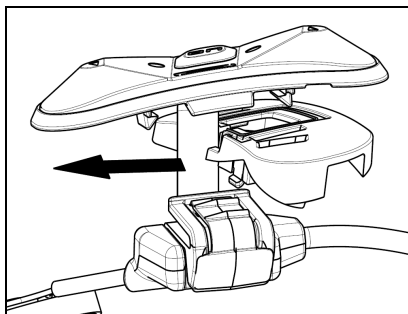

Fig. 14
- Insert the support specific for your helmet in the flex cable of the keypad (Fig. 14);